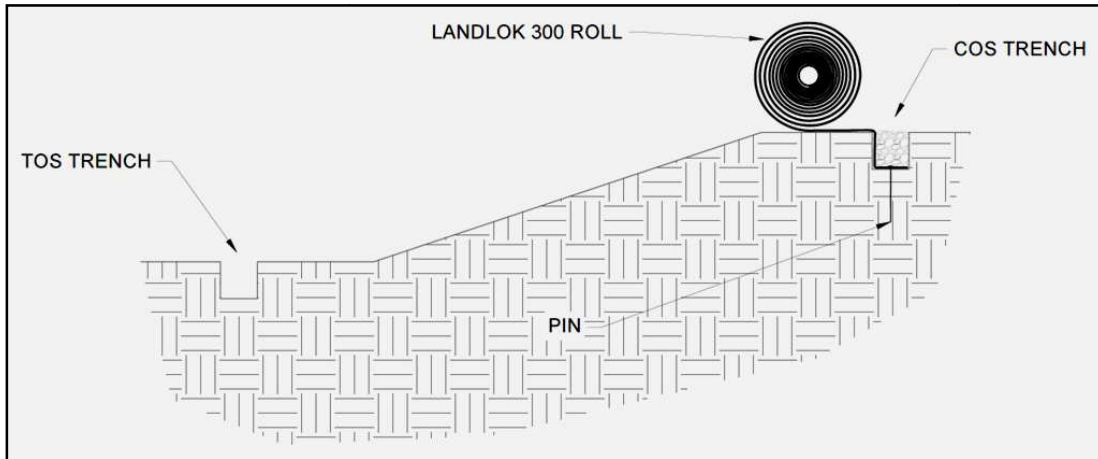

Figure 5: Crest of Slope (COS) Trench Placement
4. Backfill and compact the COS trench in the location of the first Landlok 300 panel only (Figure 5).